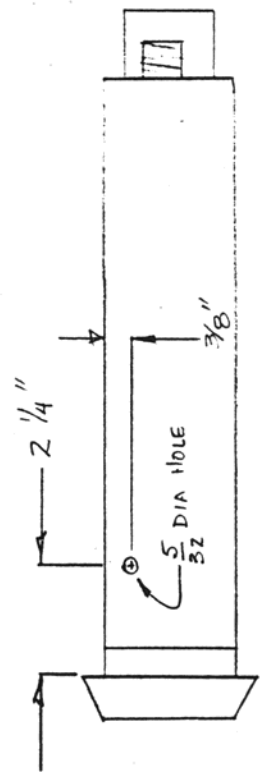

Figure 2
16. Drill or punch a 5/32 inch hole approximately 2 1/4 in. back from the rear of the radio's plastic nosepiece, and 3/8 in. down on the right side of the radio if you have the radio's front toward you, and upside down. (See Fig. 2)